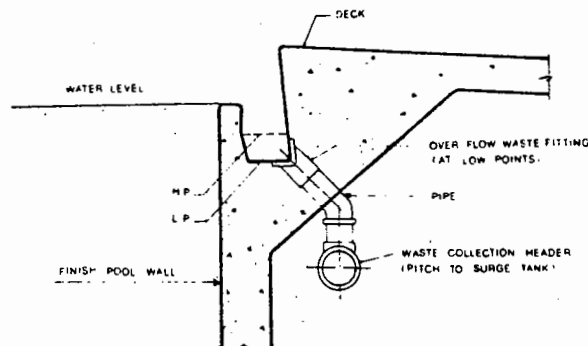

Fig. 8 Semi-recessed gutter.
b. **Semirecessed gutter.** (See Fig. 8.) Similar to fully recessed, but water level is closer to deck and gutter is easier to clean. System must be piped to surge tank.